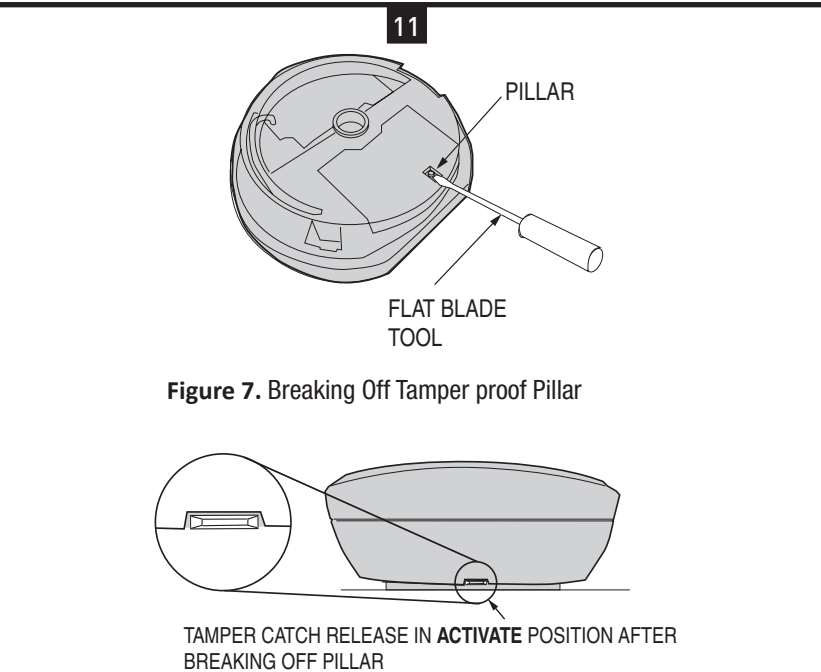

Figure 8 Tamper Catch in ACTIVATE position.
- The 2GIG-C08E-345 alarm can be made tamper proof. Break off the small pillar on the base of the CO Alarm (Figure 7). This will allow the tamper catch release to be activated and in the position shown in Figure 8. To remove Alarm from wall or ceiling it is now necessary to use a small flat tool (See Figure 9) to release the catch release. Follow the procedure for removing the alarm that is shown in Figure 10. If necessary it is possible to further tamper proof the Alarm by using a #2 or #4 1/4 inch self tapping screw (not included) and installing it into the indent of the mounting base (Figure 11).